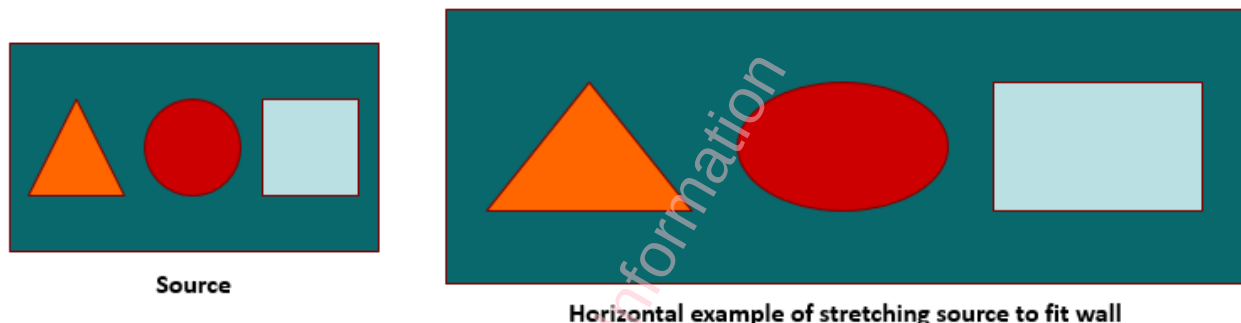

Figure 50: Horizontal Example of Stretching Source to Fit Wall
If the impact to the area of interest (AOI) size and offset settings are not taken into consideration when the source and wall have different aspect ratios, the result is a distorted image being displayed. The output from the decoder (RX) would be stretched either vertically or horizontally to fit the wall. Refer to figure below, Figure 50: Horizontal Example of Stretching Source to Fit Wall.